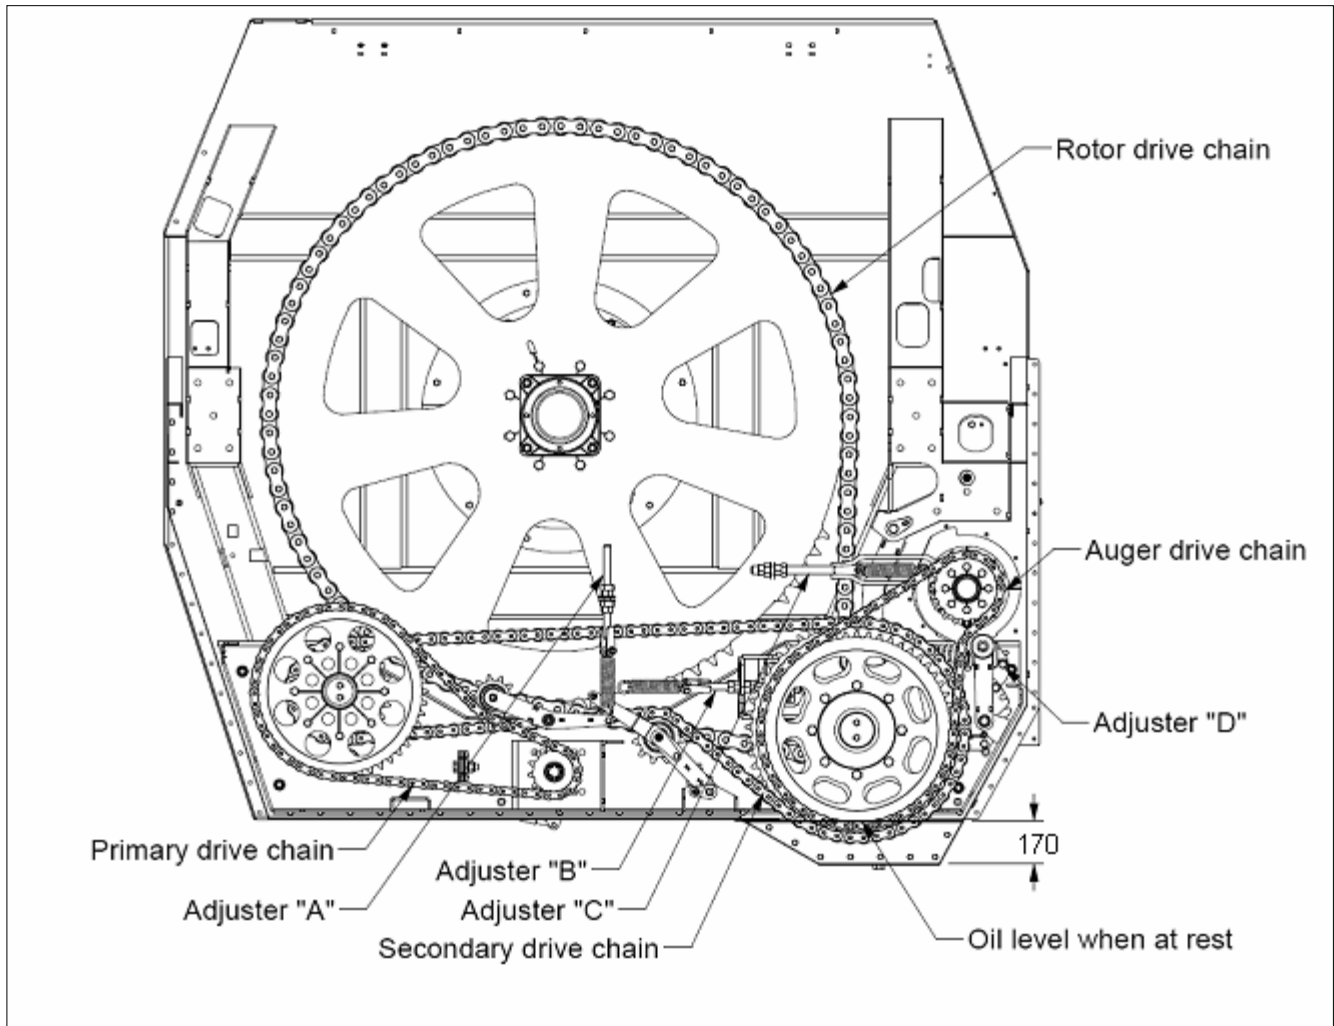

Figure 8: Keenan Mech-Fiber 400 drive system
1. Each week check the condition of the chain tension arms and adjust as required. There are four chains used on the Mech-Fiber 400 model. The primary drive chain (ASA120) drives the primary idler shaft from the input shaft (see figure 8) and the secondary chain (ASA140HS) drives the secondary idler. The third chain (ASA200HS) drives the rotor. The fourth chain (ASA120) drives the auger independently. All four chains are tensioned by a spring assembly on the slack side of the chain.
2. Each day check the level of the oil reservoir (see figure 8). If the oil level is low, top it up with chain saw oil (the properties of which allow it cling to the chains longer). Do not use grease on the chains, as it is unsuitable for the application and will not allow lubrication of the vital internal parts of the chain.
Primary Chain: This preload tension can be set by adjusting the vertical threaded bolt in the centre of the drive system (adjuster "A" in figure 8). The correct tension will be applied to the chain when the tension spring is extended to **220mm** between mounting centres. Once set, retighten all locking nuts.
Secondary Chain: The preload tension on this chain can be set by adjusting the horizontal threaded bolt situated behind the secondary idler shaft driven sprocket (adjuster "B" in figure 8). As above the correct tension will be applied to the chain when the tension spring is extended to **220mm** between mounting centres. Once set, retighten all locking nuts.
Auger Chain: The preload tension on this chain can be set by adjusting the horizontal threaded bolt situated to the front of the drive system (adjuster "C" in figure 8). Again, as above, the correct tension will be applied to the chain when the tension spring is extended to **220mm** between mounting centres. Once set, retighten all locking nuts.
Rotor Chain: The preload tension on this chain can be set using the adjuster pivot arm mechanism on the left side of the machine directly below the auger shaft (adjuster "D" in figure 8). To access this mechanism open the top left cover. Open the nut from the M16 fixing bolt and using a spring clamp or a lever bar compress the spring and remove the bolt. Using the same method as before now compress the spring to approx **255mm**. Ensuring that the spring is seated correctly, replace the M16 bolt & nut in the appropriate position and tighten.